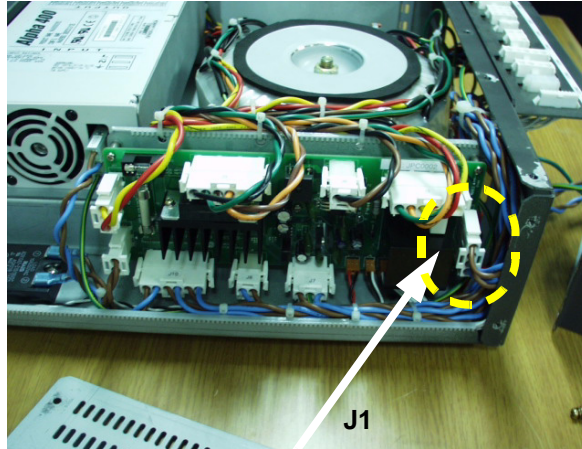

Figure 8-183 Disconnect 1 connector
3.) Disconnect one (1) connector (J1) from the JPC Assy. Refer to Figure 8-183.